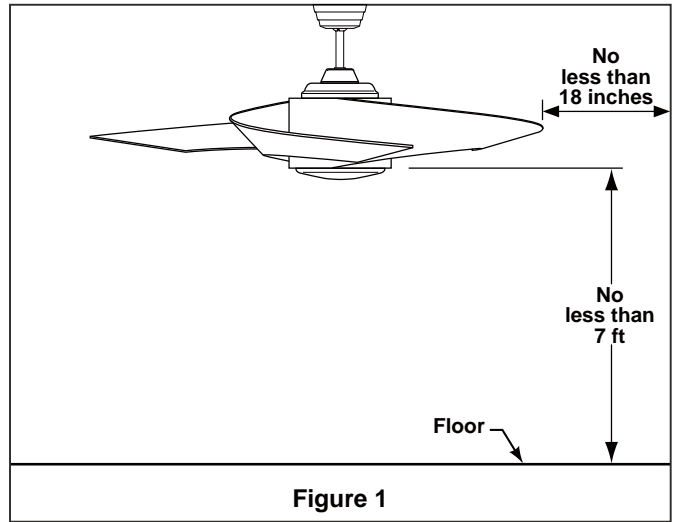
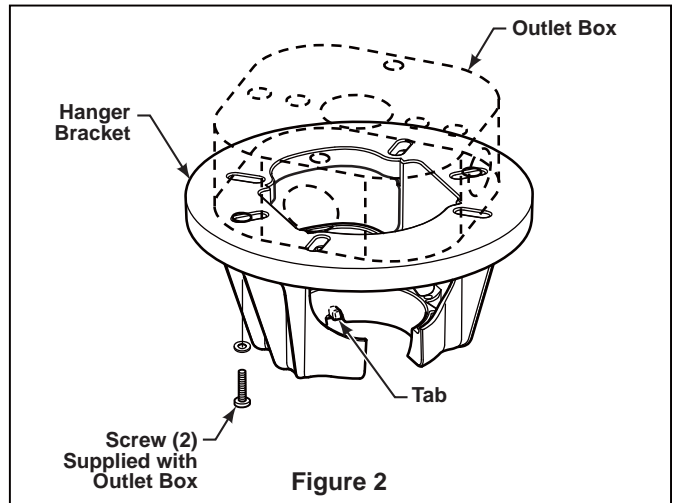
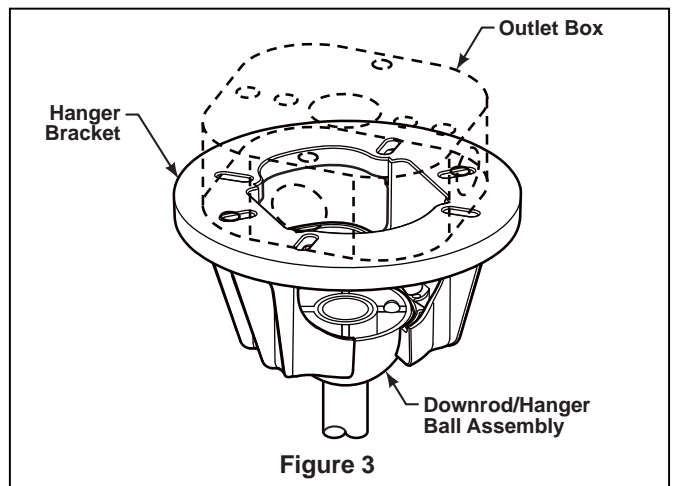

Figure 1
Figure 2
Figure 3
Your new ceiling fan will require a grounded electrical supply line of 120 volts AC, 60 HZ, 15 Amp Circuit. Electrical code requires use of a fan-rated outlet box to support the extra weight and motion associated with a ceiling fan. A fan-rated box will be labeled as such and typically supports up to a 70lb ceiling fan. Fan-Rated Outlet Boxes vary in ratings and design. Ensure the ratings of your ceiling fan outlet box meet the requirements for the ceiling fan being installed. Figure 1, Figure 2 and Figure 3 depicts different structural configurations that may be used for mounting the outlet box.
Low profile box (Figure 1)
Deep box (Figure 2)
Deep box with brace (Figure 3)
1. Remove the Clevis Pin, Hairpin Clip, Hanger Ball and Pin by loosening the setscrew in the Hanger Ball. Retain the Clevis Pin, Hairpin Clip, Hanger Ball and Pin for reinstallation. (Figure 1)
- 3. Loosen the two setscrews in the Downrod Support. Align the Clevis Pin holes in the Downrod with the holes in the Downrod Support. Install the Clevis Pin and secure with the Hairpin Clip. (Figure 2) Be sure to push the straight leg of the hairpin clip through the hole near the end of the clevis pin until the curved portion of the hairpin clip snaps around the clevis pin. The hairpin clip must be properly installed to prevent the clevis pin from working loose. Pull on the Downrod to make sure the clevis pin is properly installed. Tighten the two set screws and locking nuts in the downrod support.
- 4. Slide the Motor Coupling Cover down until it touches the top of the Housing. (Figure 3)
- 5. Route wires through Motor Coupling Cover and through opening in Canopy Screw Cover and Canopy. Position Canopy Screw Cover and Canopy on fan shown with open side facing up. (Figure 3)
- 6. Reinstall the Hanger Ball (Figure 1) on the Downrod as follows. Route the three 80" wires through the Hanger Ball. Position the Pin through the two holes in the Downrod and align the Hanger Ball so the Pin is captured in the groove in the top of the Hanger Ball. Pull the Hanger Ball up tight against the pin. **Securely tighten the setscrew in the Hanger Ball. A loose setscrew could create fan wobble.**
The fan must be hung with at least 7' of clearance from floor to blades (Figure 1)
1. Securely attach the hanger bracket to the outlet box using the outlet box screws and washers supplied with the outlet box (Figure 2).
NOTE: Outlet box screws pass through slotted holes of the hanger bracket (Figure 2).
3. Carefully lift the fan and seat the downrod/hanger ball assembly on the hanger bracket that was just attached to the outlet box (Figure 3). Be sure the groove in the ball is lined up with tab on the hanger bracket (Figure 2).
- Connect wires as indicated: (Figure 2)
2. Securely attach Downlight Socket Plate Assembly to the Adapter Plate by tightening three screws provided with the fan. (Figure 2)
3. Install two Candelabra Bulbs (included - 60 watts max) in each of the sockets on the Downlight Socket Plate Assembly. (Figure 3)
- 2.** Restore electrical power to the outlet box by turning the electricity on at the main fuse box. (Figure 2)
- 3. Operating & Using Hand-held Remote (Figure 3):** Install two piece of 3 volt battery (If not using for long periods of time, remove battery to prevent damage to Store hand-held remote). the hand-held remote away from excess heat or humidity.
2. Install the control bracket with two #6-32x 3/4" screws. And push the four plastic plug to cover the screw holes. (Included in the control packaging). (Figure 2)
2. Install the control bracket with two #6-32x 1" screws. And push the four plastic plug to cover the screw holes. (Included in the control packaging). (Figure 2)